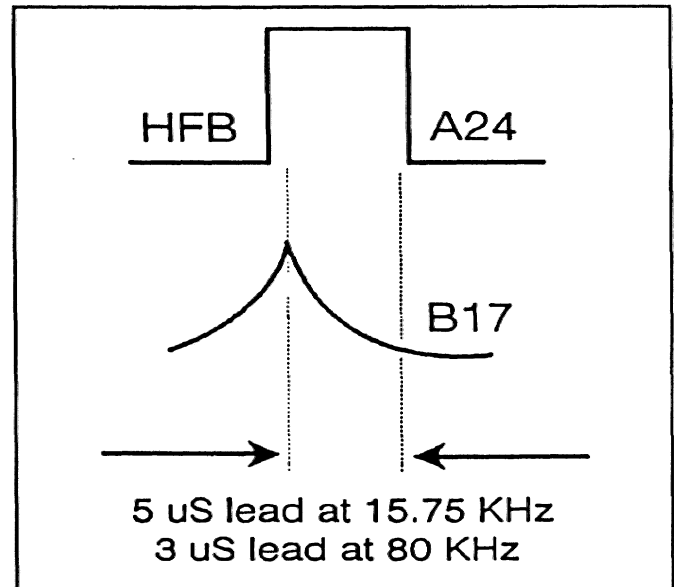

FIGURE 12-2. *Horizontal Parabola*
**Horizontal Ramp.** IC4A, IC14A and associated components produce a voltage ramp. The voltage appearing at pin 1 of IC14A is -1V at 15.75 KHz and -5V at 80 KHz. R55 carries a current of 45 mA at 15.75KHz and 230 mA at 80KHz. The current charges C34 and generates a 3.4V 0-peak voltage ramp (H.RAMP) at pin 7 of IC14B. In a similar manner, a 3.0V 0-peak ramp is generated at pin 14 of IC14D. IC11A produces a 600 nanosecond pulse referenced to the falling edge of HFB. See Figure 12-2. The pulse turns on Q3, discharging C32. Resistors R72, R73, R74 and R78 produced a reference voltage proportional to frequency plus a constant ( $V_{ref} = kf + c$ ). The ramp drives the output of comparator IC16 high when ramp voltage is less than the reference voltage on pin 2 of IC16. The square wave at pin 7 of IC16 can be used to trigger IC11 to output a 600 nanosecond pulse which resets H. RAMP.